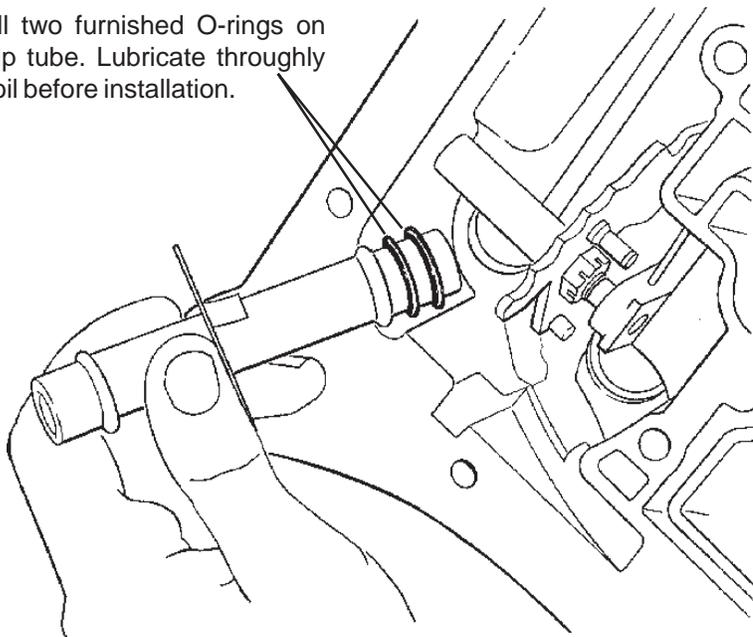

Figure 12
STEP 15. Install **two (2)** filter O-rings on filter pick-up tube (**See Fig. 12**). Lubricate O-rings with clean ATF then push pick-up tube and filter assembly up into transmission, install spacer (if present) and shoulder bolt then torque to 8-10 lb.ft. (11-13.6 Nm).